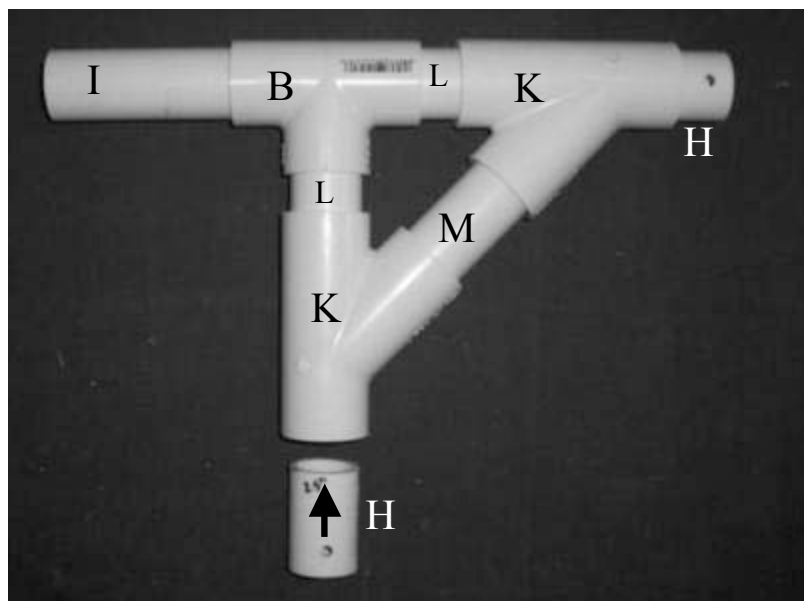

FIGURE 12 – Step 8 – Wheelchair Side Frame.
Step 8. Coat the inner surface of the remaining opening of the vertically oriented Part K with PVC glue and insert Part H (end without drilled hole) into the opening, making sure to align the holes at the midpoint as shown in Figure 12. Use the mallet to seat the connection.